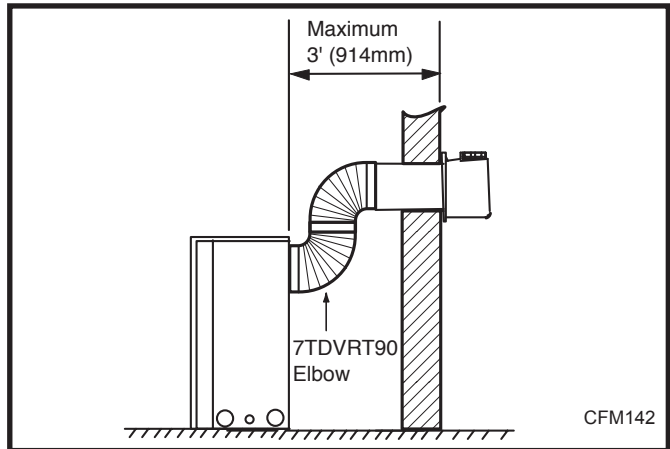

Fig. 19 Maximum horizontal vent run with 90° elbows directly off back of unit.
- The maximum number of 90° elbows per side wall installation is three (3).
- The maximum number of 45° elbows permitted per side wall installation is two (2). These elbows can be installed in either the vertical or horizontal run.
- When one (1) 90° elbow is installed directly onto another off the back of the fireplace the maximum horizontal vent length is 36" (914 mm). (Fig. 19)